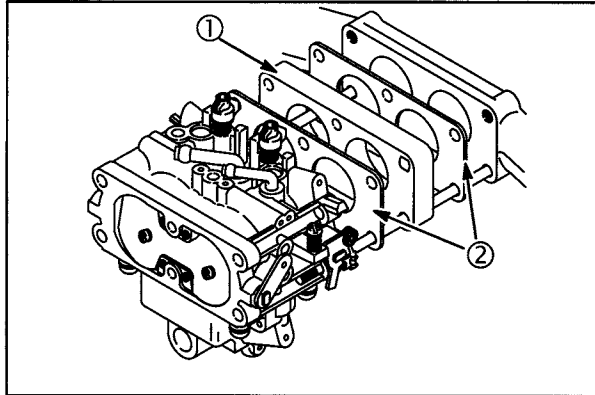

Fig. 114
Remove carburetor gaskets (2) and spacer (1), Fig. 114. Discard carburetor gaskets.